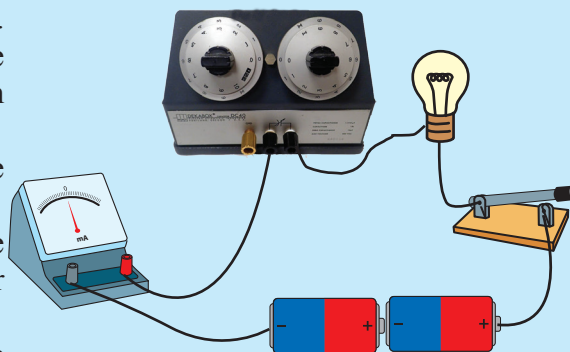

Figure 10.24 ▲
- Connect the bulb, the switch, the dry cells, the milliammeter and the variable resistor as shown in Figure 10.24.